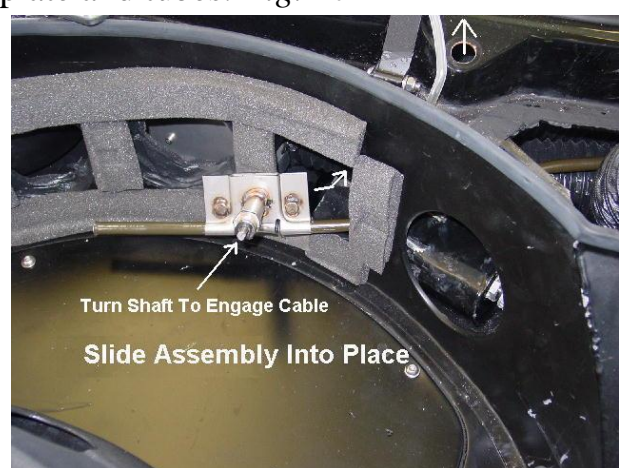

Fig. 22
16. Once the cable contacts the gear, turn the shaft to engage the cable. *Fig. 22* Continue to turn the shaft until the long tube seats against the motor housing. (It may be necessary to install the hub temporarily to aid in turning the shaft)